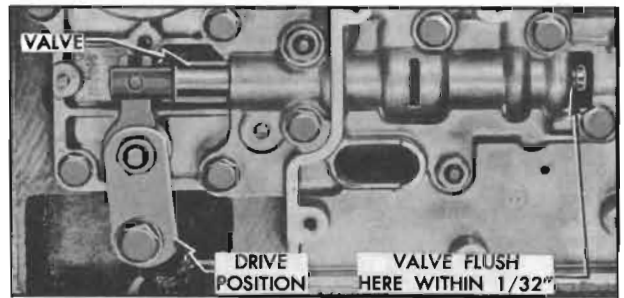

Figure 5-103—Position of Control Valve in Direct Drive Range
9. If inner end of valve is not flush with edge of port in valve body, loosen lock bolt and move adjusting lever as necessary to align edge of valve with edge of port (flush), then re-tighten lock bolt, making certain that adjustment does not change. See Figure 5-103.
14. Install selective thrust washer, retaining washer, and bolt with external tooth lockwasher on front end of input shaft. See figure 5-103. Shift into "Parking" and pry up on reverse band operating lever with screwdriver to lock input shaft, then tighten bolt to 30-35 ft. lbs. torque.